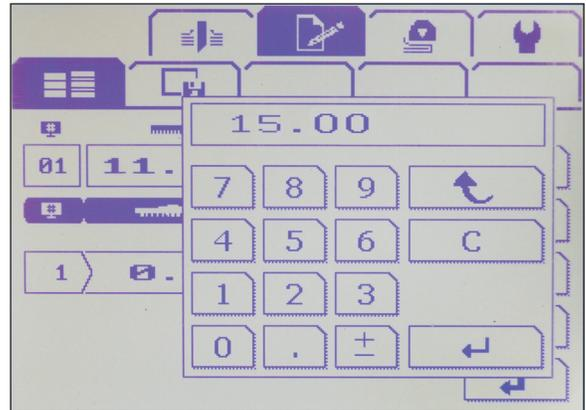

Fig. 8a
3. Enter the back gauge position for the first cut (Fig. 8a). 15" will be used for this example.